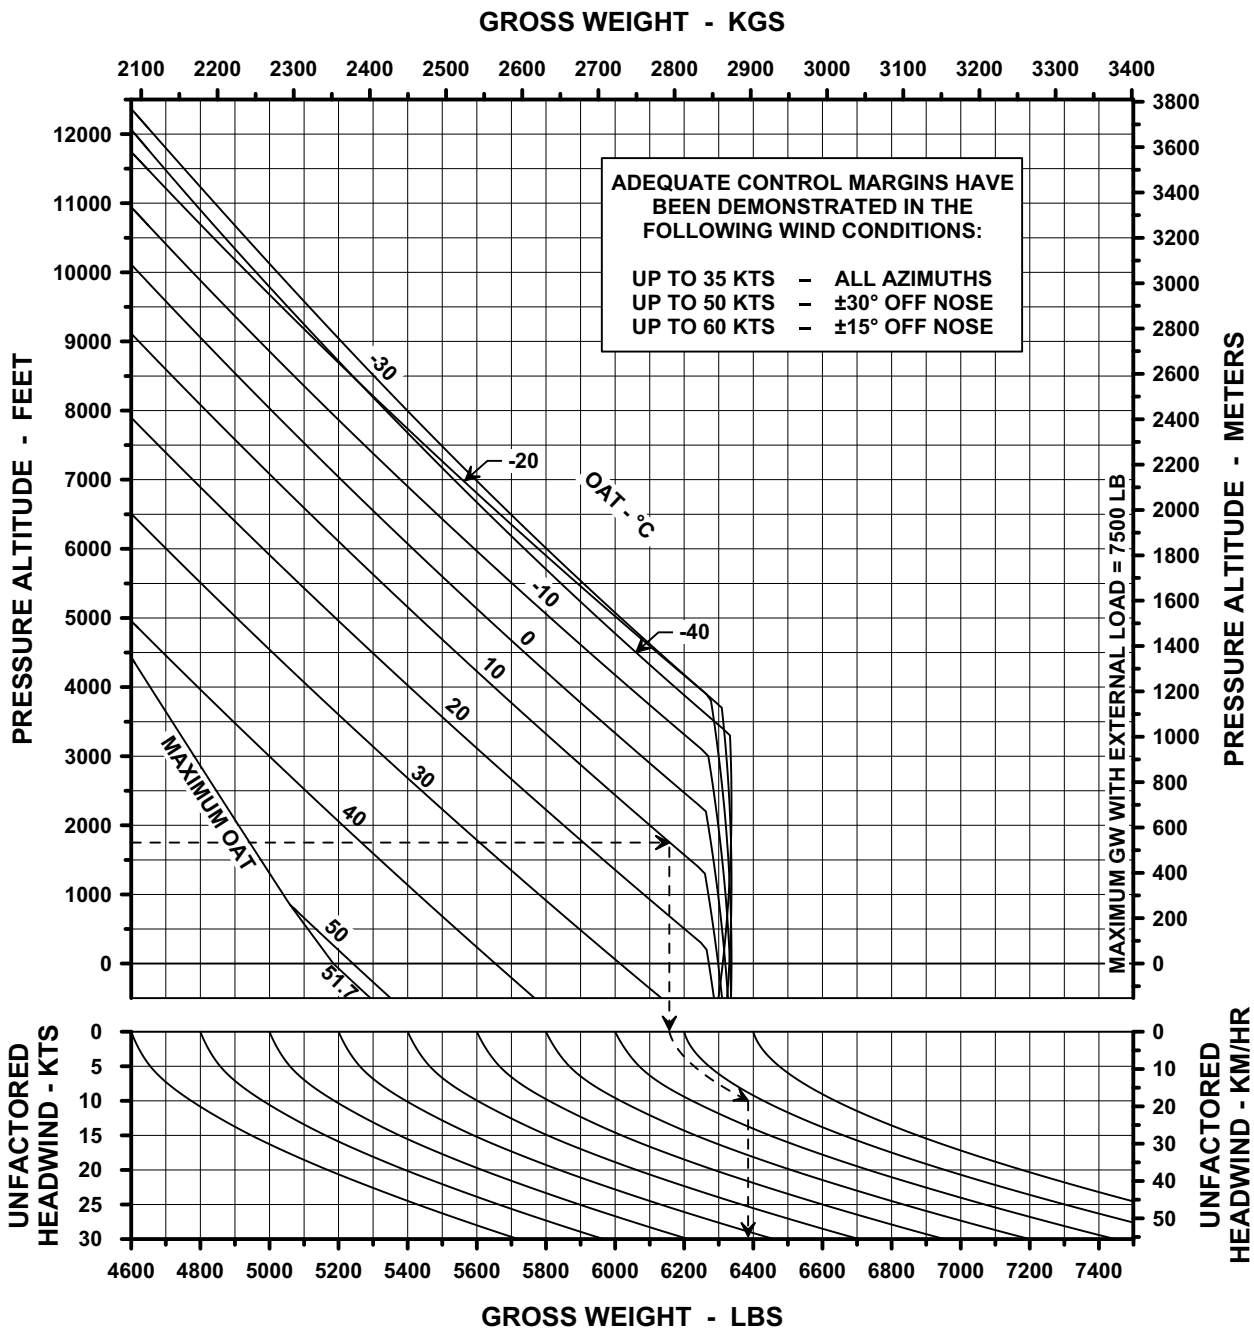

Figure 4-6. Hover Ceiling OGE — 2-Minute OEI Power
- b. To determine maximum GW, use Hover Ceiling OGE — 2-Minute OEI Power chart (Figure 4-6): Enter on left of chart at 1750 feet H_p. Move right following grid lines to intersect the +10°C line. Move vertically down to top of the Unfactored Headwind graph (at zero wind). Move parallel to trend lines to the 10 knot (Factored Headwind) graph line. Move vertically down to Gross Weight axis and read 6385 pounds.